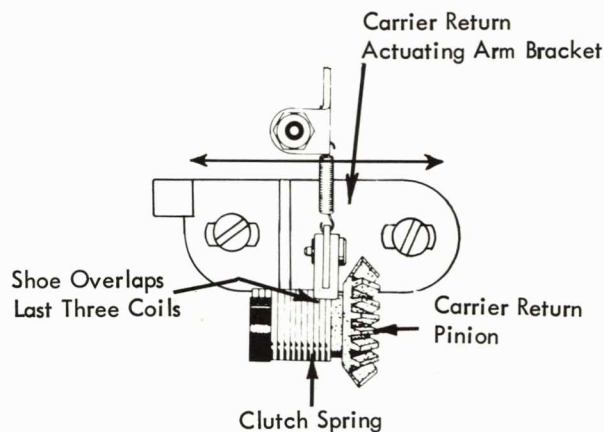

FIGURE 143. Carrier Return Shoe
3. Carrier Return Shoe - Adjust the carrier return actuating arm bracket left or right so that the carrier return shoe overlaps the last 3 coils on the right hand end of the clutch spring. Covering the last 3 coils insures that all the coils of the spring will be used in the clutch operation (Fig. 143).